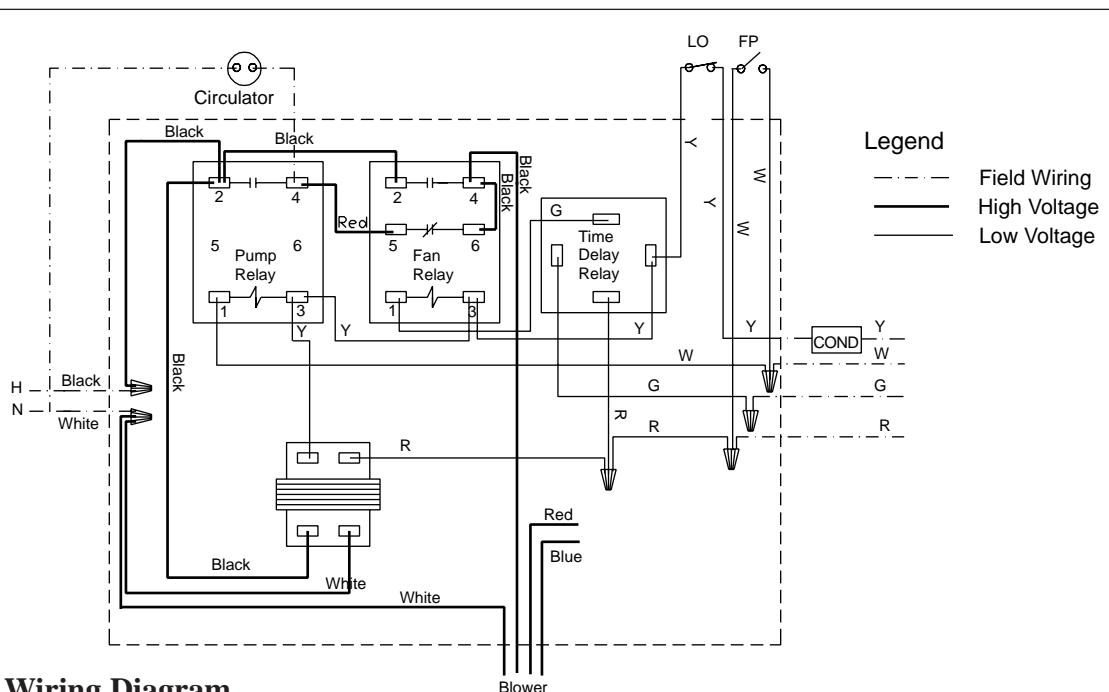

Fig. 1: Factory Wiring Diagram
4. Disengage the (120-volt) line voltage wires from Transformer. (See Fig. 1)
6. Disengage the (24-volt) low voltage wiring from control wiring. See Fig. 1.
8. Attached the (24-volt) low voltage wiring to the control circuit. See Fig. 1.